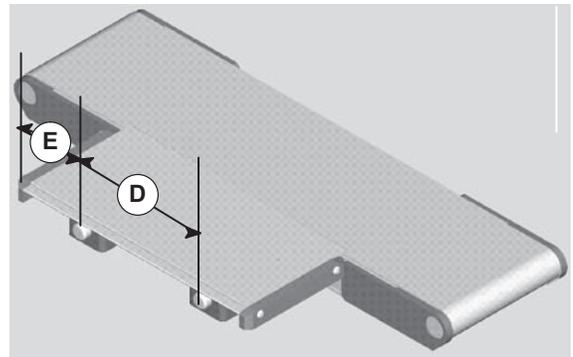

Figure 3
- Table support bar maximum distances (Figure 3)